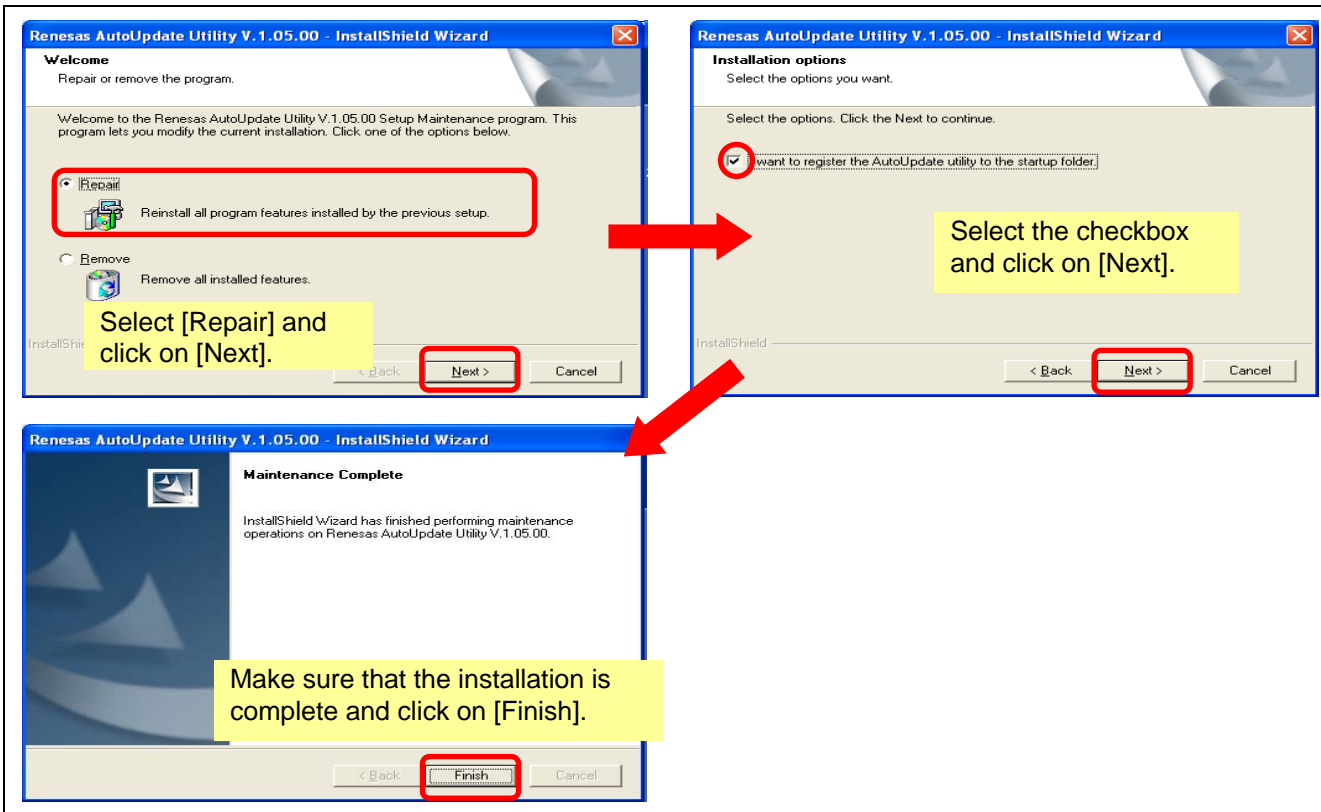

Figure 3.7 Installing the Auto-Update Utility
(8) Installation of the auto-update utility starts. Follow the procedure shown in Figure 3.7.